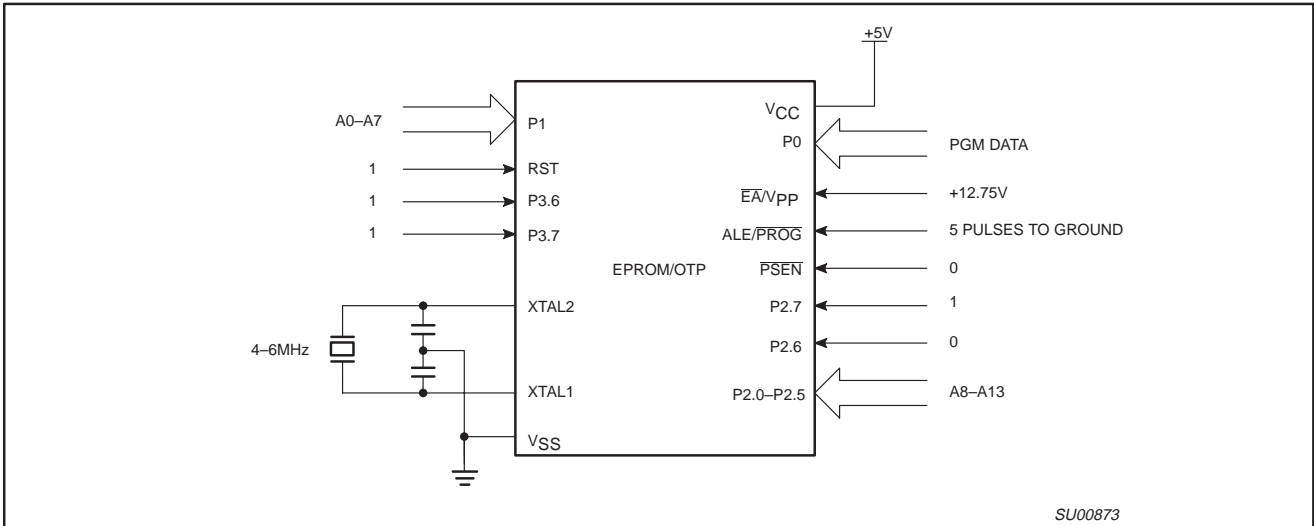
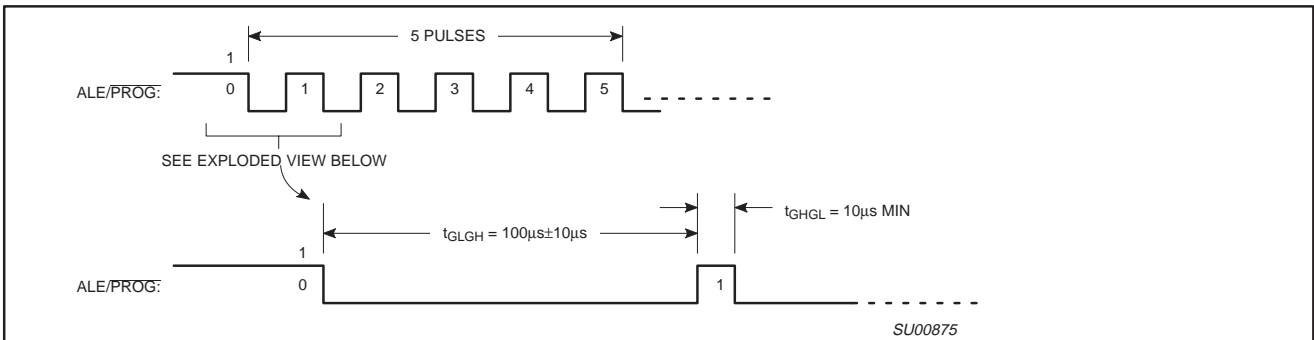
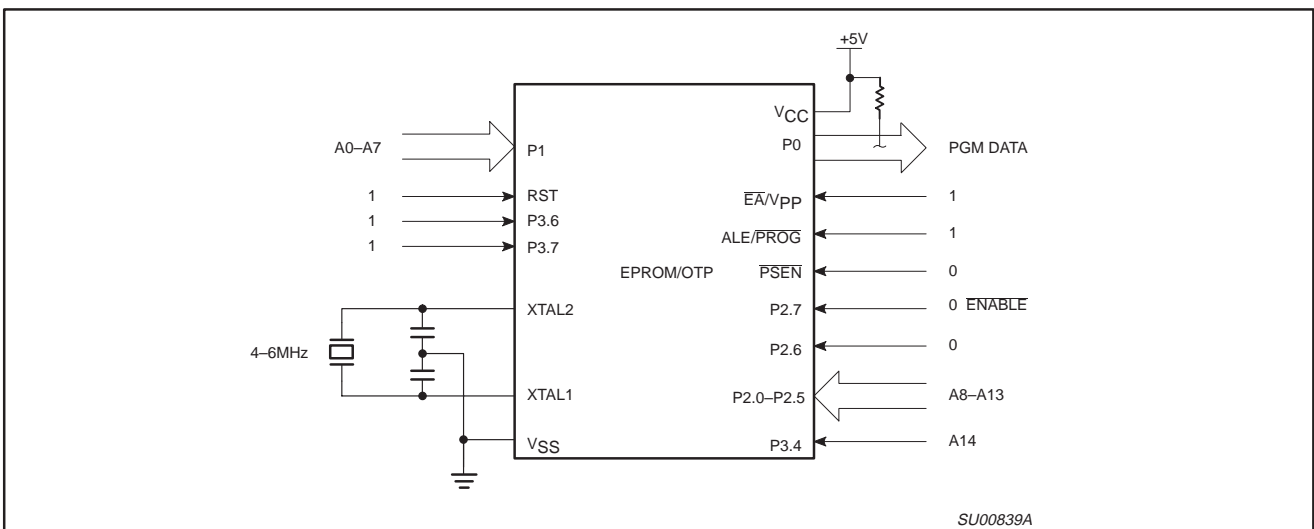

Figure 26. Programming Configuration
Figure 27. $\overline{\text{PROG}}$ Waveform
Figure 28. Program Verification
Table 8 shows the logic levels for reading the signature byte, and for programming the program memory, the encryption table, and the security bits. The circuit configuration and waveforms for quick-pulse programming are shown in Figures 26 and 27. Figure 28 shows the circuit configuration for normal program memory verification.
The setup for microcontroller quick-pulse programming is shown in Figure 26. Note that the device is running with a 4 to 6MHz oscillator. The reason the oscillator needs to be running is that the device is executing internal address and program data transfers.
The address of the EPROM location to be programmed is applied to ports 1 and 2, as shown in Figure 26. The code byte to be programmed into that location is applied to port 0. RST, \overline{PSEN} and pins of ports 2 and 3 specified in Table 8 are held at the 'Program Code Data' levels indicated in Table 8. The ALE/PROG is pulsed low 5 times as shown in Figure 27.
If security bits 2 and 3 have not been programmed, the on-chip program memory can be read out for program verification. The address of the program memory locations to be read is applied to ports 1 and 2 as shown in Figure 28. The other pins are held at the 'Verify Code Data' levels indicated in Table 8. The contents of the address location will be emitted on port 0. External pull-ups are required on port 0 for this operation.
- * FOR PROGRAMMING CONFIGURATION SEE FIGURE 26.
FOR VERIFICATION CONDITIONS SEE FIGURE 28.